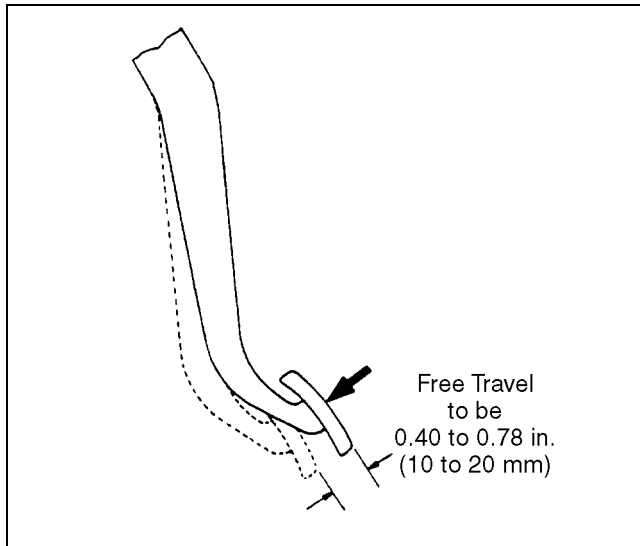

Figure 2C-16. Clutch Free Travel
1. Depress clutch pedal, stop as soon as clutch resistance is felt, and measure clutch pedal free travel as shown in Figure 2C-16.